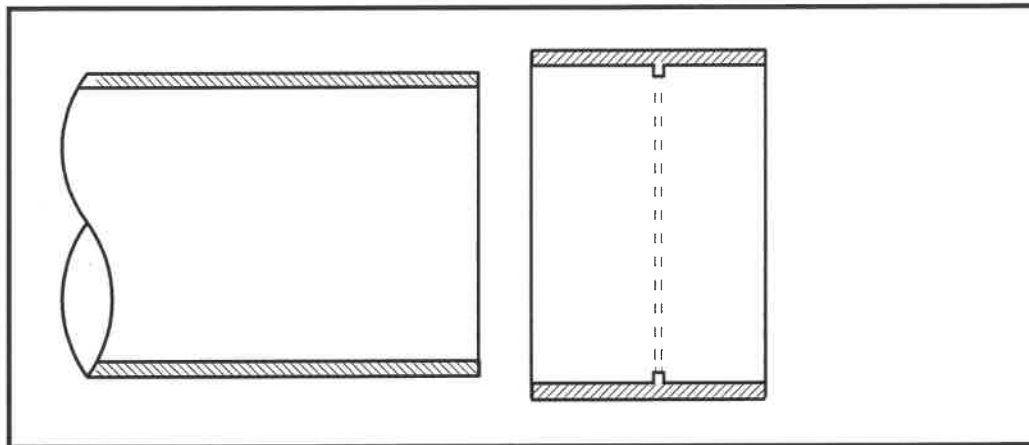

FIGURE 6.3
- 6.3 FIGURE 6.3 below shows the section through a 110 mm diameter PVC pipe and a 110 mm PVC socket.